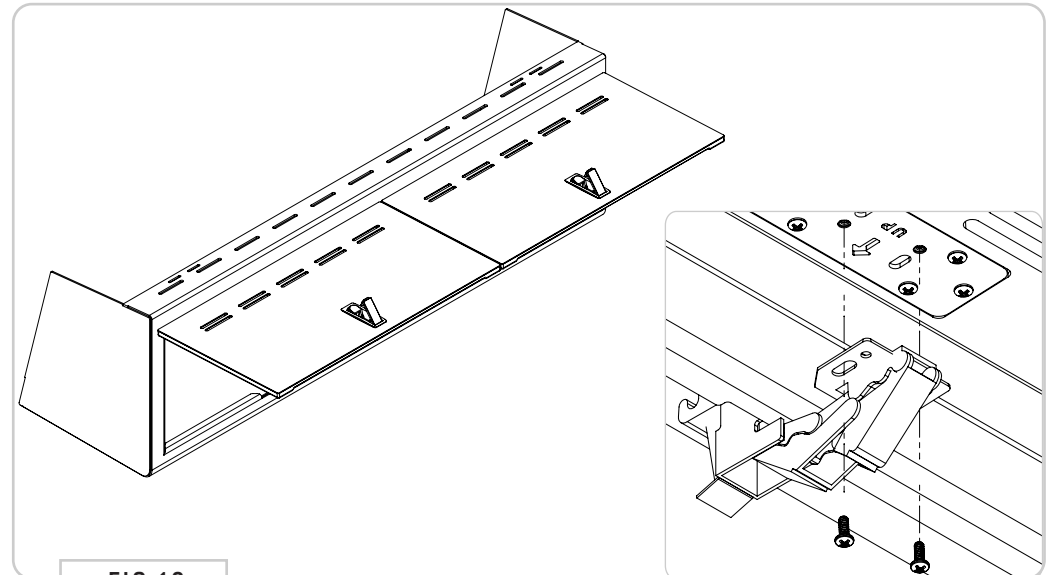

FIG 10
4.2 Mount the Door to the Hinges with (2ea) **6-32 Machine Screws** in the hinge slots as pictured in **FIG 10**.